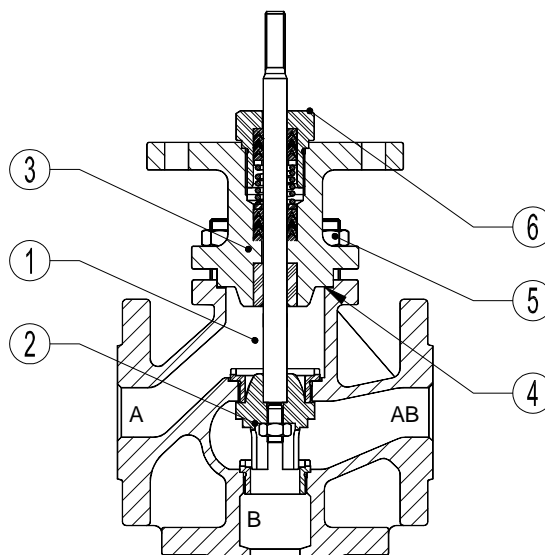

Fig.4 – Replacing the plug
24 hours after the start up, it is recommended to check pipe connections and verify the tightening of flanges locknuts. Graphite packing should be compressed by tightening the threaded bushing (6) (see fig.4) about a ¼ of a turn (care should be taken since overtighten may lock-up the valve stem).
Separate the actuator from the valve body as described before. In reference to fig.4 proceed as follow: